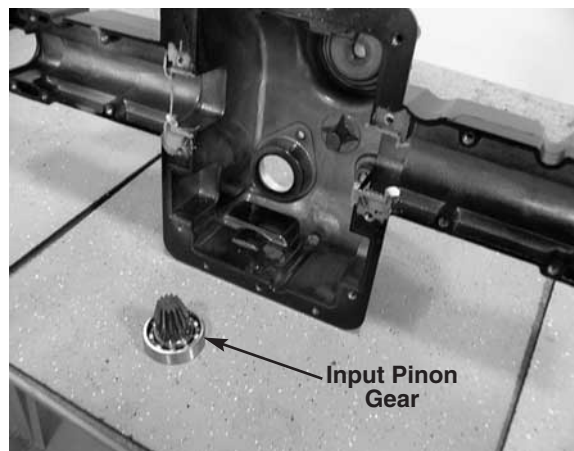

FIGURE 15.
34. Remove the input pinion gear assembly from the case. See figure 15.